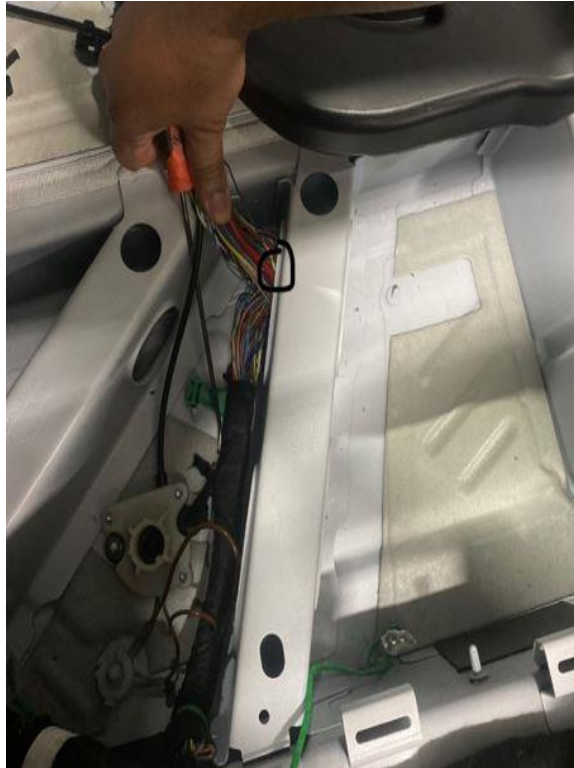

Figure 1. A perspective view showing the area along the frame rail.
- 1 perspective view – Shows the general area and provides a reference of the surrounding area (Figure 1).
Using the description in the example above, the root cause can be clearly identified in Figure 1.